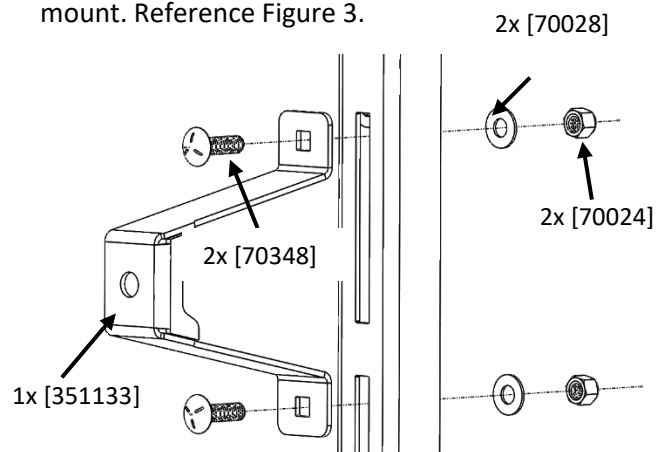

Figure 3: Mounting Tire Bracket
3. Loosely fasten the Tire Mount Bracket to the slotted channel, going through the bracket first, using the 3/8" carriage head bolts, washer, and nuts to mount. Reference Figure 3.